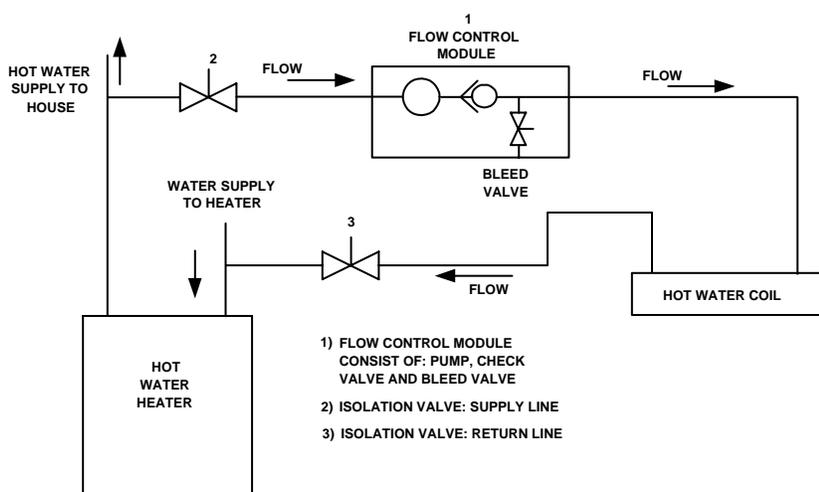

Figure 1
- Close valve number 2 and open valve number 3. (See figure 1 )